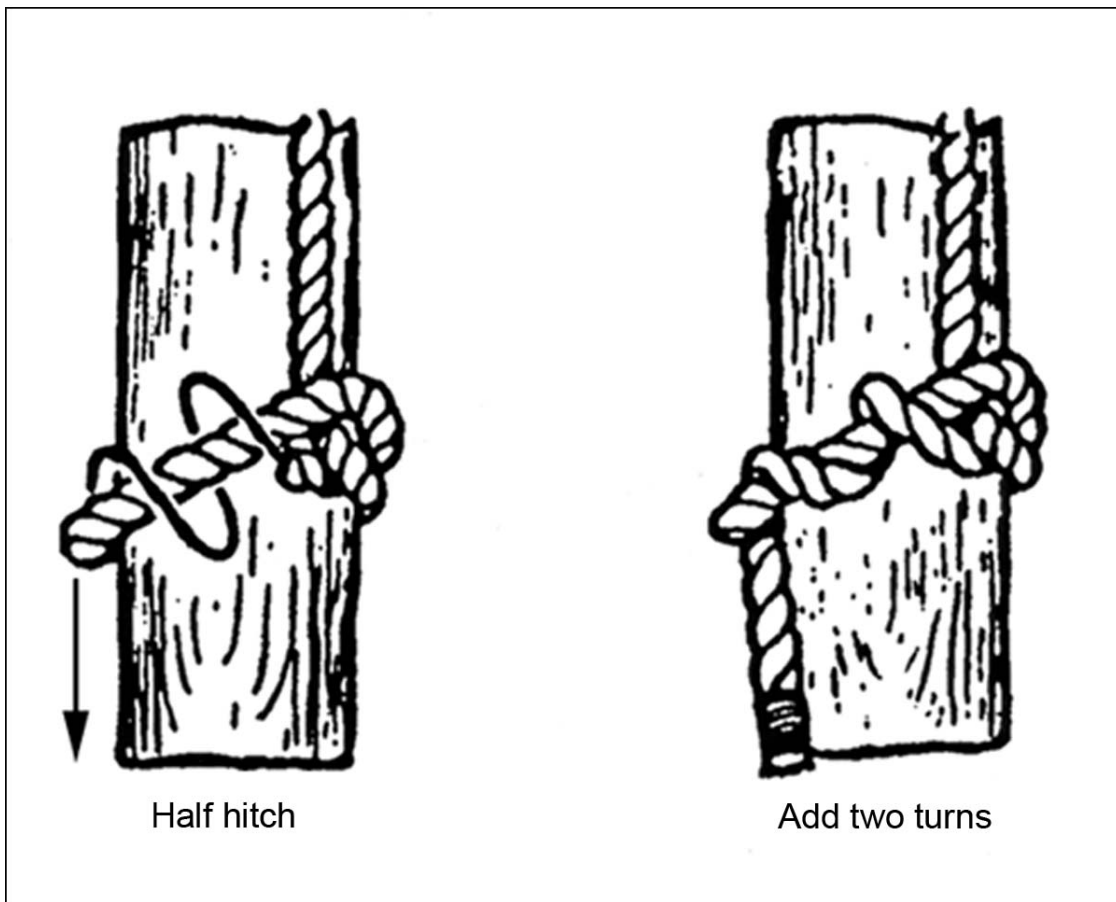

Figure 052-204-1204-6
6. Tie a timber hitch knot (Figure 052-204-1204-6). Use this knot when the rope is going to be tied around a rough surface (like a crossarm) and under strain. It should not be used when security is a high priority or when the direction of pull could change abruptly.